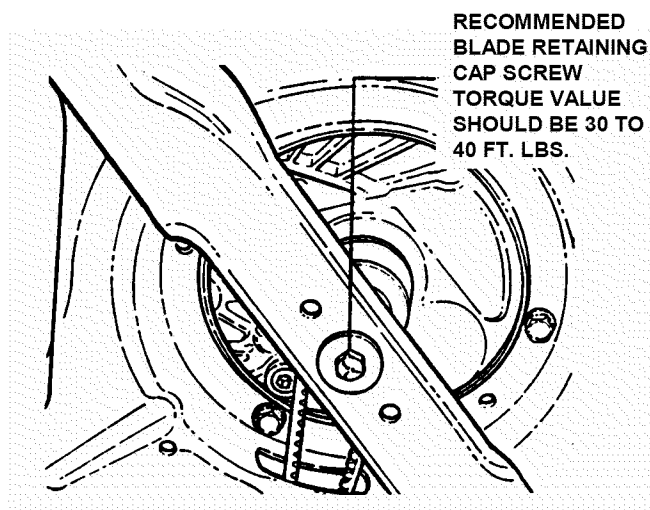

FIGURE 3.2
2. Tilt mower up on its rear wheels for access to the blade cap screw. Do not tilt mower with spark plug or carburetor down. See Figure 3.2.
3. Check torque of blade retaining cap screw. Recommended torque should be 30 to 40 ft. lbs. See Figure 3.2.